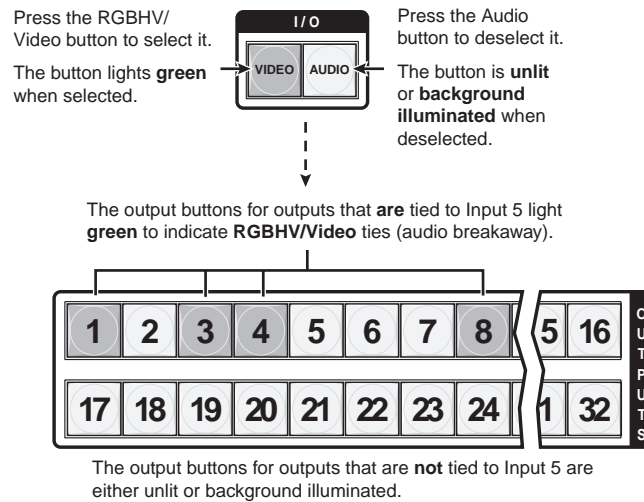

Figure 3-27 — Deselect audio and select RGBHV or video to view RGBHV or video only
- Press and release the RGBHV (CrossPoint 450 Plus switchers) or Video (MAV Plus switchers) button and the Audio button to toggle the RGBHV or Video button on green and the Audio button either unlit or providing background illumination (figure 3-27).